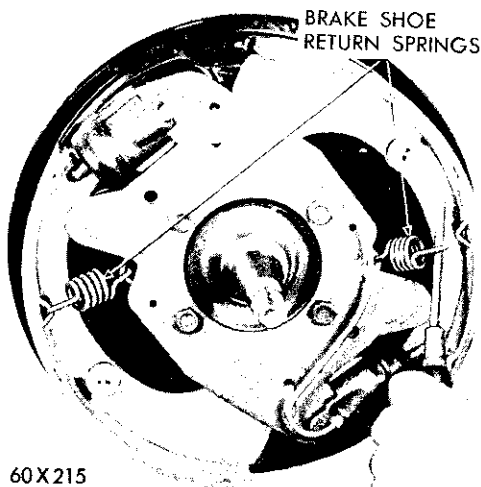

Fig. 7—Removing and Installing Brake Shoe Return Spring (Front)
- (1) Block the brake pedal to prevent any downward movement of the pedal.
- (2) Remove the front wheel and drum as an assembly, after backing off the adjusting cams.
- (3) Use a suitable tool to remove the shoe return springs, as shown in Figure 7. The end of the tool should be inserted between the spring and the brake shoe web (Fig. 7) to remove the shoe return spring.
(3) Use a suitable tool to remove the shoe return springs, as shown in Figure 7. The end of the tool should be inserted between the spring and the web of the brake shoe (Fig. 7) to remove the shoe return spring.
(1) Slide the brake shoes into position between the support plates. Be sure the ends of the cylinder push rods engage the toe end of the shoes properly.
(2) Insert brake shoe return springs in the link of the support plate.
(3) Use a suitable tool, as shown in Figure 7, to attach the return springs to the loop of the brake shoe table.
(3) Use a suitable tool, as shown in Figure 7, to attach the springs to loop of the shoe table.
(3) Lubricate the adjusting cams of the support plate assembly lightly with stick lubriplate, then slide brake shoes into position between the support plates.
(4) Install brake shoe return springs through link of the support plate and use a suitable tool to attach spring to the brake shoe, as shown in Figure 7.
(5) Install the brake shoe guide rod, spring and retainers.
(6) Install the wheel cylinder connecting tube, being careful not to bend or distort the tube.
(7) Turn the brake adjusting cams to the fully